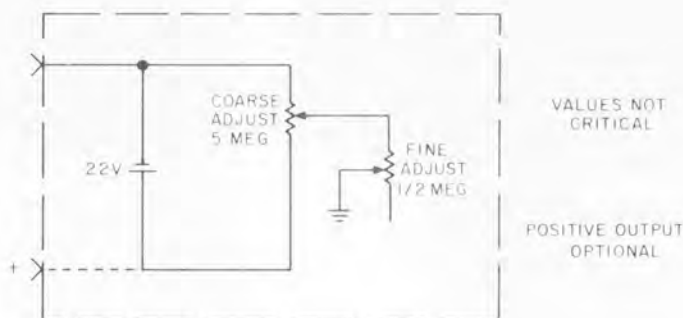

Figure 4-17. Bias Supply Schematic Diagram
- (1) Sweep Generator, Wavetek, Model 2000
- (2) Oscilloscope, Tektronix, Model 503
- (3) Signal Generator, Hewlett Packard, Model 608E
- (4) Frequency Counter, Hewlett Packard, Model 5245L
- (5) Bias Supply (see Figure 4-17)